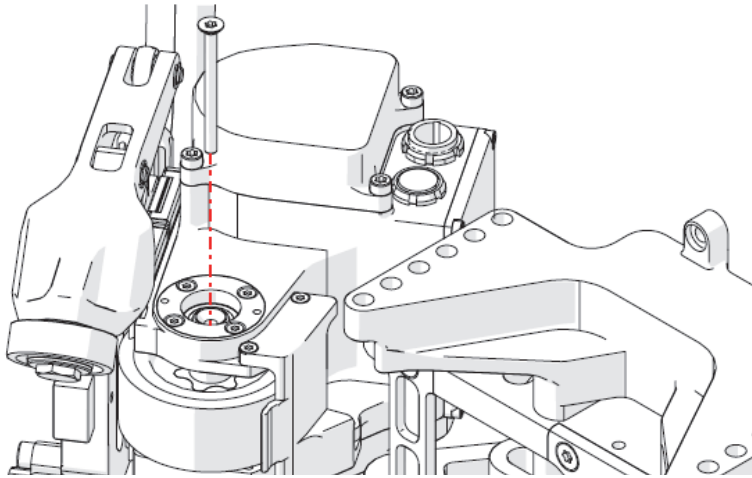

Figure 2-11 Remove screw from axle
12. Using a T20 Torx driver, remove the axle screw (see Figure 2-11 on page 91).